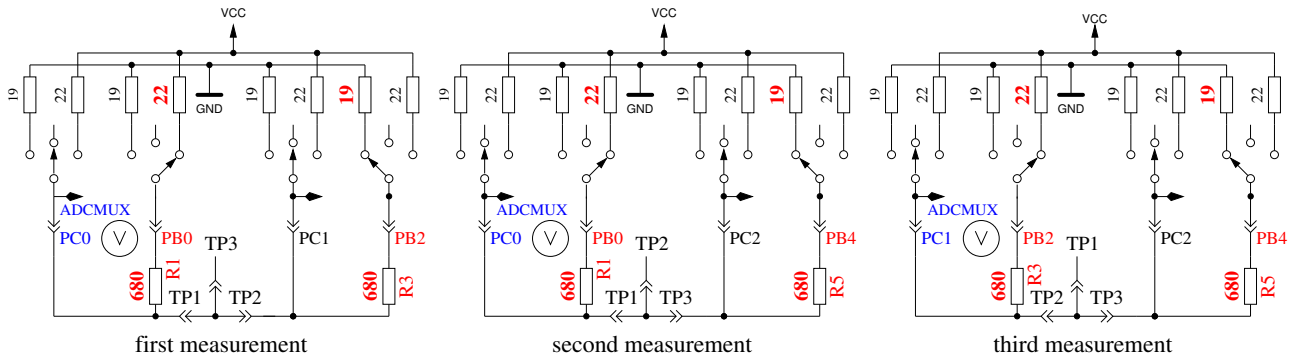

Figure 5.63. Comparison of 680Ω resistors
2. **Comparing of the 680Ω resistors.** In row 1 the cryptic text “+RL- 12 13 23” is shown. Meaning of this is as follows: The RL is the short form of Resistor Low meaning the 680Ω resistors. The 12 stand for: resistor at pin 1 is connected to VCC (+) and resistor at pin 2 is connected to GND (-). The result of this measurement is displayed in row 2 at the first place as difference to the theoretical value. In row 1 follows now a “13” which means, that the first connection of measurement 1 is still connected with 680Ω to VCC but that the resistor of pin 3 is connected to GND. The result is displayed in the middle place of row 2 as difference to the theoretical value. The last measurement of this test “23.” means that now the resistor at pin 2 is connected to VCC (+) and the resistor of pin 3 is connected to GND. The result of measurement is displayed at the last place of LCR row 2 as difference to the theoretical value. Please remember, that the resolution of the ADC is about $4.88mV$! The measurement situation is also shown in figure 5.63. The theoretical value with respect to the internal resistance of the pins should be: $\frac{5001 \cdot (19+680)}{(19+680+680+22)} = 2493$.